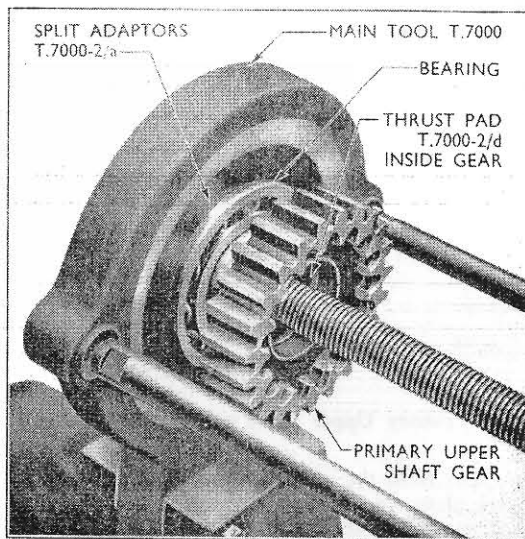

Fig. 17
10. Fit the split adaptors T.7000-2/a around the primary upper shaft bearing and install the assembly in Main Tool T.7000. Insert the thrust pad T.7000-2/d in the bore at the gear end of the primary upper shaft gear, position the gear in the bearing bore and press in until fully located. (See Fig. 17.)